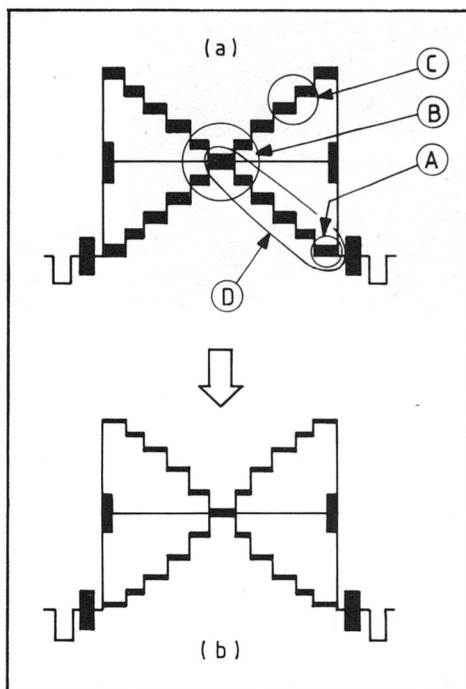

Fig 7.40
- (1) Remove the lens cap to focus on the grey-scale pattern, and effect the procedure detailed in Section 7.2.7.1 (TP-1 = 0.6V)
- (2) Connect the oscilloscope probe between the PAL-type VIDEO output and the GND terminals on the SSG and Encoder PCB (CA 3501A)
- (3) Adjust the waveform shown in Figure 7.40(a) to that illustrated in Figure 7.40(b)
- (a) Initially, adjust VR32 to minimize the amplitude of part (A) (black level) shown in Figure 7.40 (a)
- (b) Adjust VR33 and VR53 to minimize the amplitude of part (B)
- (c) Adjust VR31 to minimize the amplitude of part (C)
- (d) Repeat procedures (a) through (c) to minimize the amplitude of part (D).